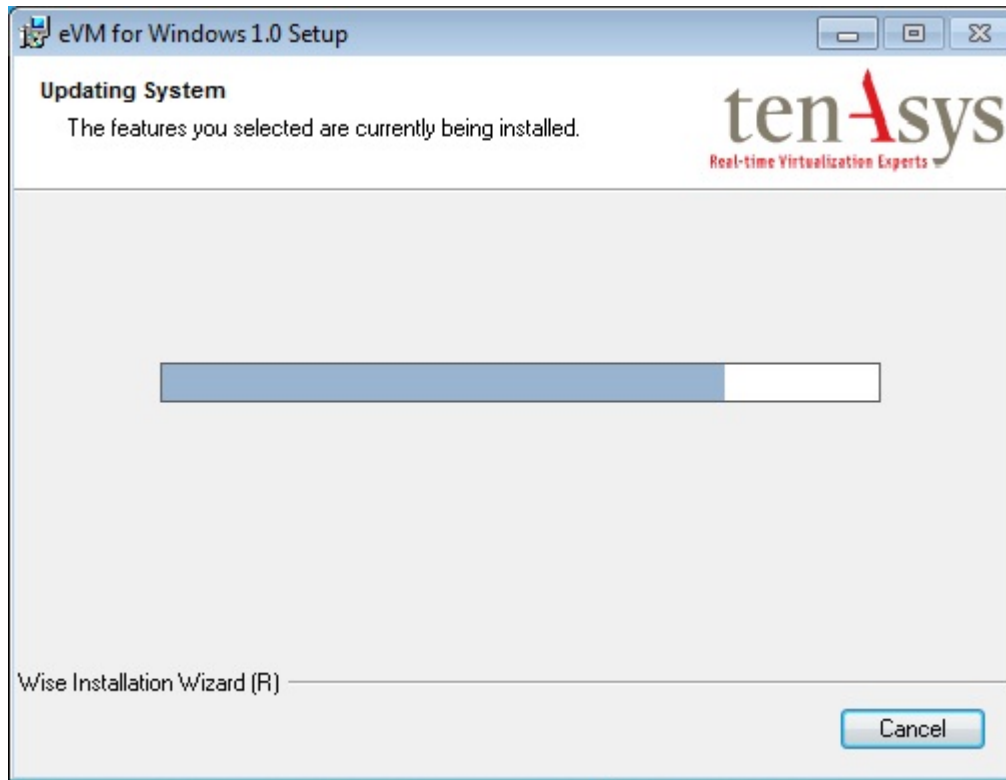

Figure 4.11 – eVM Installation Wizard Progress Dialog
10. You will then see a progress dialog, see Figure 4.11, the will show you the status of the components and features that are being installed.